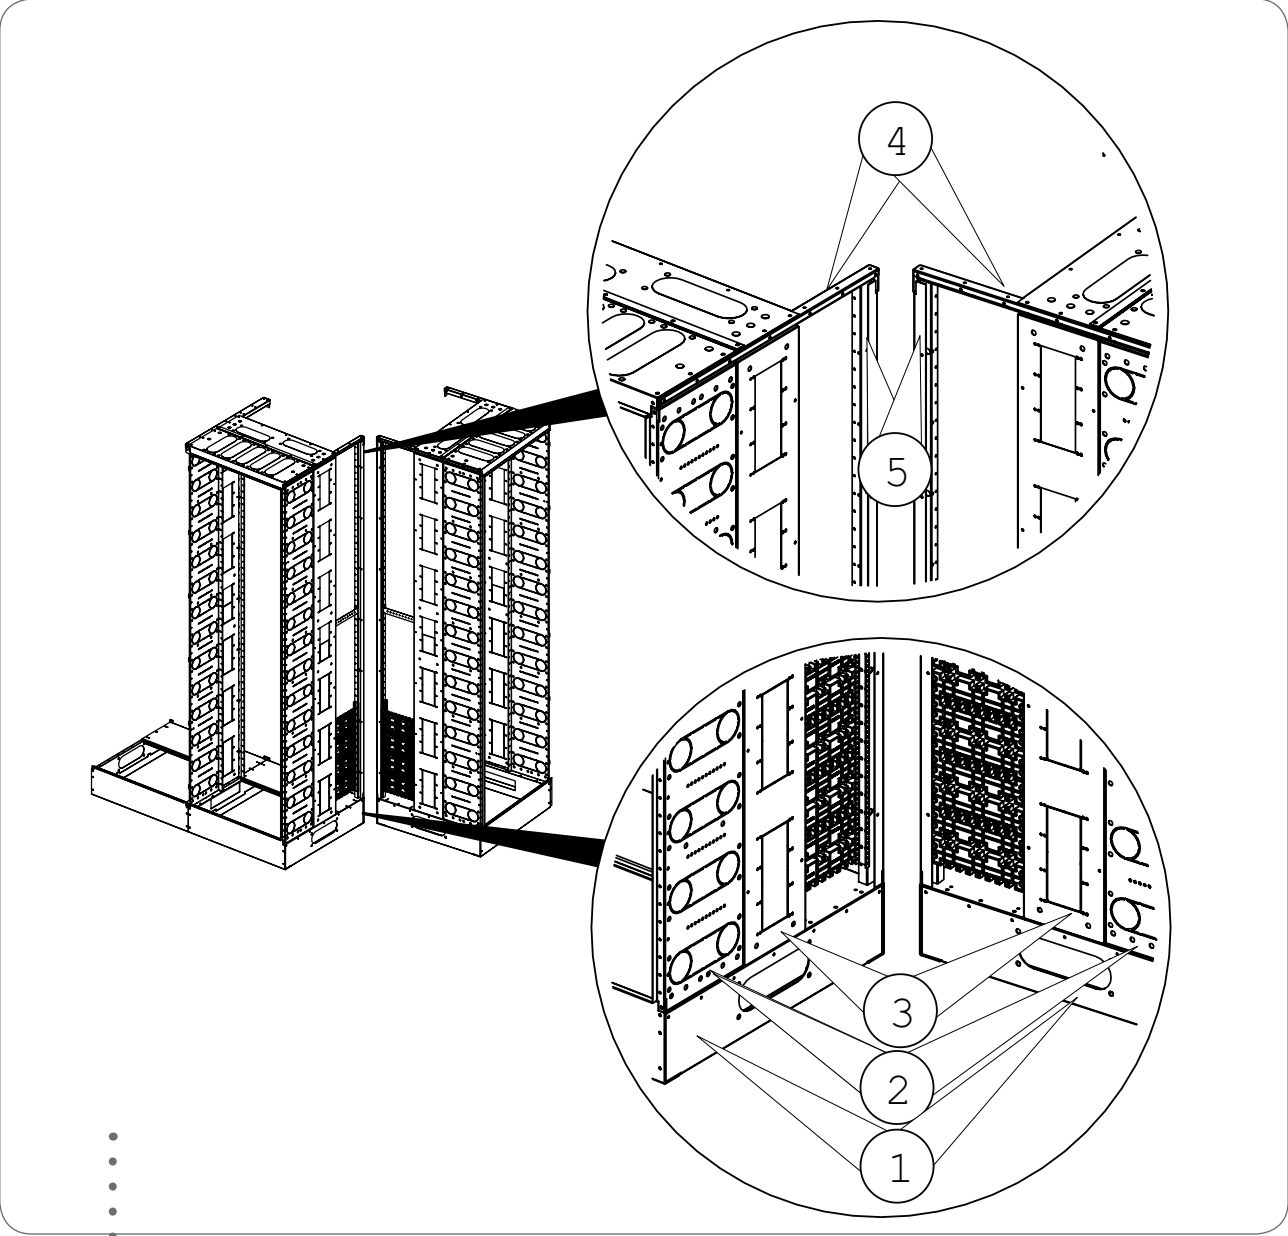

Fig. 2.43. Parts needed for transport breaks in E-serie cell centre frames.
For a transport break in both cell centre frame versions (385 and 610) you need end plates of base (1), joint front partition walls (2), frame plates (3), and joint end profiles (4). Only for cell centres with 610 mm nominal depth you also need a joint back profile (5) at the transport break. The parts needed for a transport break are shown in Table 2.1 and Fig. 2.43.